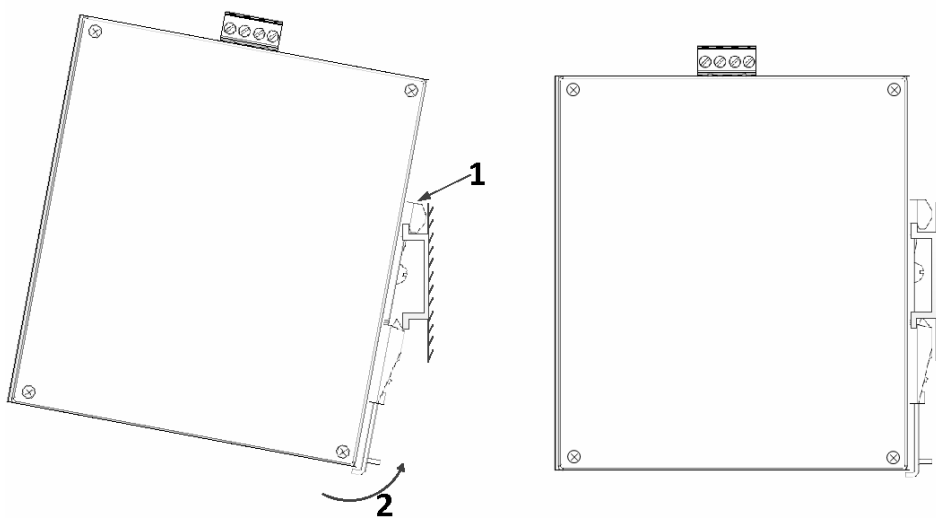

Figure 7-1 Installing steps
1. Insert one side of module without buckle into rail, as shown in 1 of Figure 7-1.
2. Rotate the module, as shown in 2 of Figure 7-1, to insert the other side into the guide rail to complete the installation.